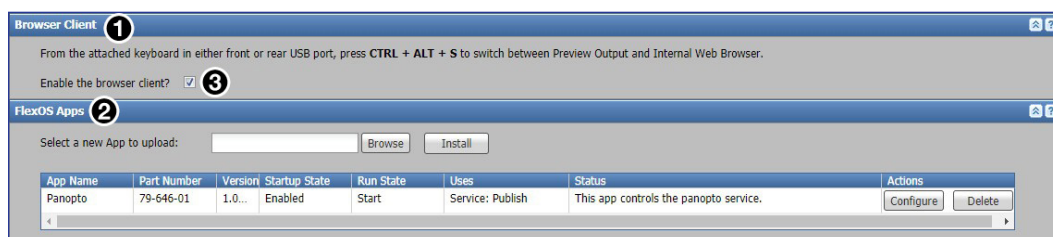

Figure 56. Advanced Features Page
The **Advanced Features** page opens (see figure 56), to the **Browser Client** (1) and **FlexOS Apps** (2) panels.